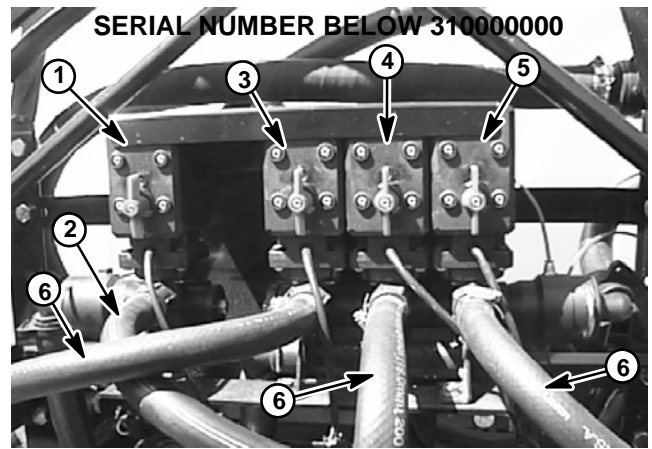
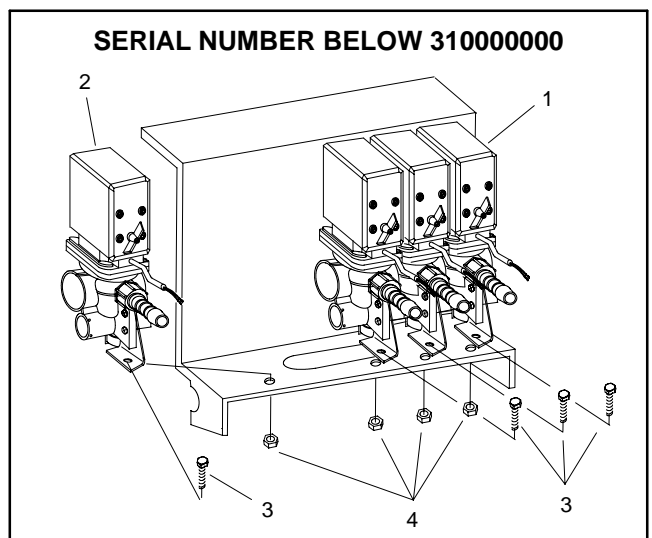

Figure 21
Figure 22
2. On machines with serial number below 310000000, remove two (2) flange head screws and flange nuts that secure support bracket (item 15) to mount bracket (item 26). Position bracket away from spray control assembly.
3. Label hoses for proper installation after repairs are completed (Fig. 21). Loosen hose clamps and disconnect hoses from spray control assembly as needed.
- C. Remove fasteners that secure boom valve motors to mount bracket (Fig. 22 or 23).
- B. Remove fasteners that secure agitation valve motor to mount bracket (Fig. 22 or 23).
2. Position removed motor assembly to mount bracket and secure with fasteners removed during disassembly (Fig. 22 or 23).
3. On machines with serial number below 310000000, secure support bracket to mount bracket with two (2) flange head screws and flange nuts.
4. Install hoses to correct locations on spray control assembly (Fig. 21). Secure hoses with hose clamps.